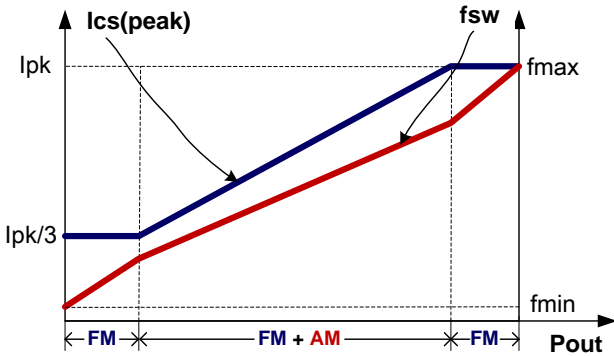

Fig.4
To meet the tight requirement of averaged system efficiency and no load power consumption, a hybrid of frequency modulation (FM) and amplitude modulation (AM) is adopted in U6115 which is shown in the Fig 4.